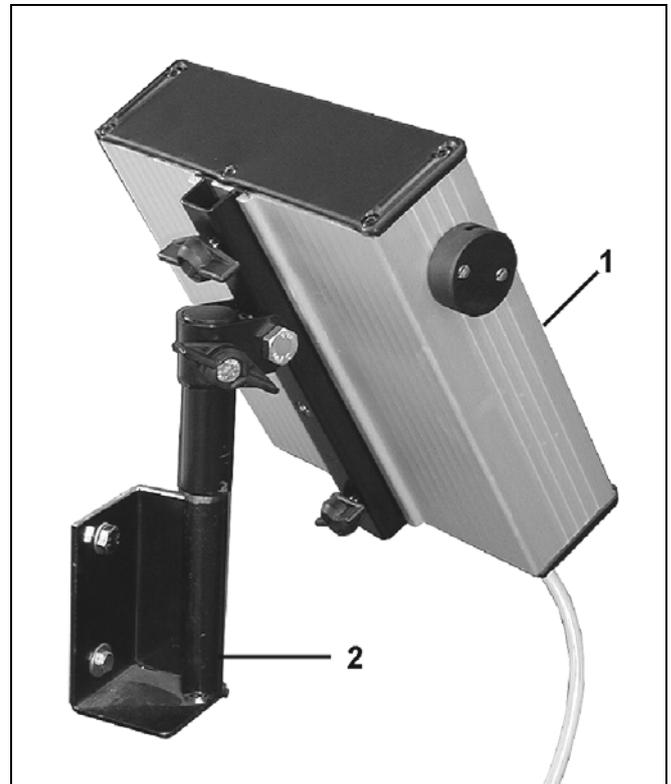
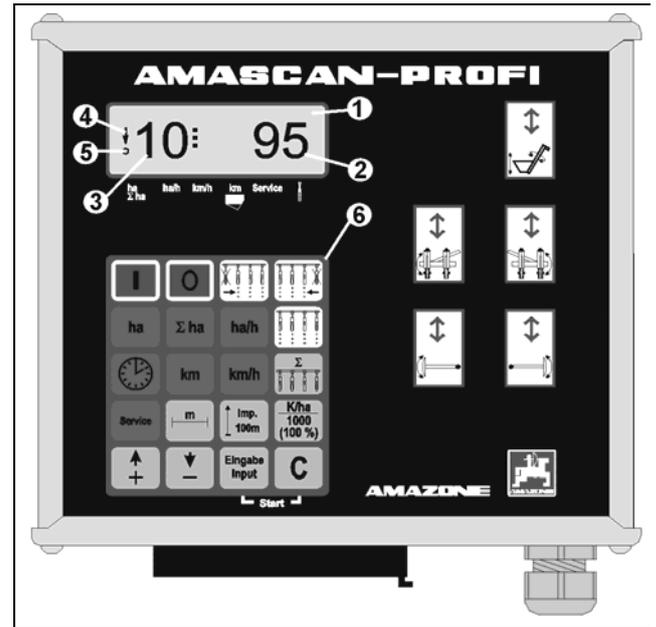

Fig. 1
Fig. 4
Fit basic console (Fig. 1/2) (special option) within reach and sight to the right hand of the operator; it must be free of vibrations and electrically conductive inside the tractor cab. The distance from a radio transmitter and an antenna should at least be 1 m.
The **retainer** (Fig. 1/1) is pushed on to the tube of the console.
When the Airplanter is in operational position the following data are shown on the 6-digit display (Fig. 4/1):
- right hand – the current number [seed grains/ha]/1000 (Fig. 4/2).
- on the left hand side (Fig. 4/3) the display (figures 1, 2, 3 etc.) changes automatically after 5 seconds. The number of the actually monitored sowing unit is shown.
- the vertical arrow (Fig. 4/4) and the flicking circle below (Fig. 4/5), as soon as the movement sensor (Sensor "X") is transmitting impulses to the **AMASCAN PROFI**.
The key pad (Fig. 4/6) is divided into the following areas: